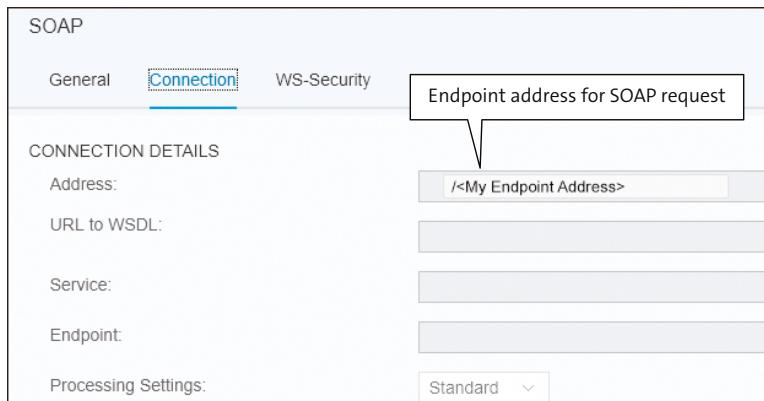
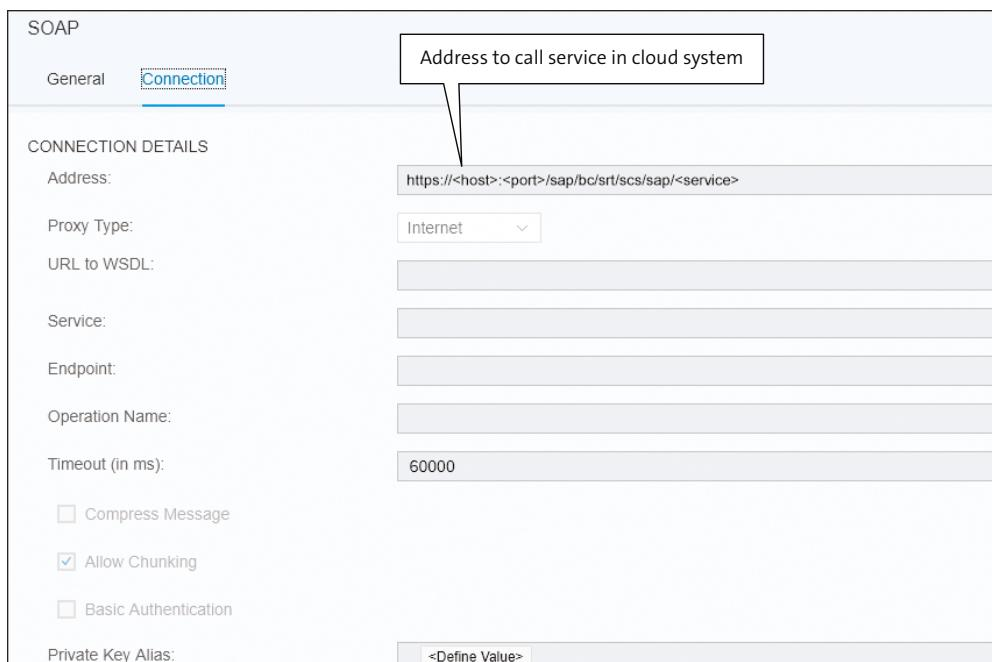

Figure 11.5 SOAP Adapter for Messages Sent from SAP Cloud for Customer to SAP Cloud Platform Integration
Figure 11.6 SOAP Adapter for Messages Sent from SAP Cloud Platform Integration to SAP SAP Cloud for Customer
Figure 11.5 shows an example of a SOAP (1.x) sender adapter for the connection between SAP Cloud Platform Integration and SAP Cloud for Customer (messages sent from SAP Cloud for Customer to SAP Cloud Platform Integration):
Figure 11.6 shows an example of a SOAP (1.x) receiver adapter establishing the connection between SAP Cloud Platform Integration and SAP Cloud for Customer for the opposite communication direction (messages sent from SAP Cloud Platform Integration to SAP Cloud for Customer).
Note that the shown examples (Figure 11.5 and Figure 11.6) are retrieved from the Integration Content Catalog and reflect earlier versions of the SOAP adapter. In the meantime, updates to this adapter type have been provided so that when you create a new SOAP adapter, you'll get a slightly different user interface (UI). For more information on the versioning concept for integration flow components, see Chapter 6, Section 6.5.